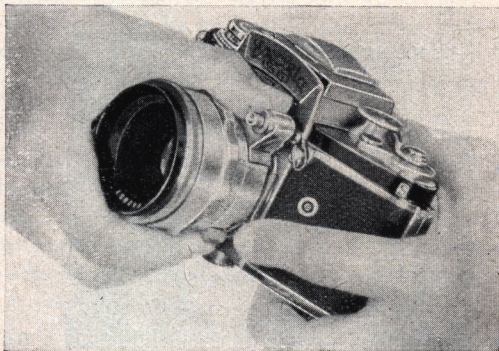

Fig. 13
The lenses (25) of the EXAKTA VX are interchangeable. The camera should always be kept with the lens inserted or with a protective cover, which is put into the bayonet mount, to protect it from dust. The front of the lens should be protected by a lens cover which, of course, must be taken off before picture taking. When removing the lens press the bayonet catch (27) towards the lens (Fig. 13). Turn the whole lens to the left (frontal views). Then two red marks (21 and 26) are opposite each other, one on camera body, the other on the lens. Lift the lens from camera. When inserting a lens, the procedure is reversed: After putting the lens (25) into the bayonet mount (red marks (21 and 26) are opposite each other), turn it to the right, until the catch (27) snaps into position.